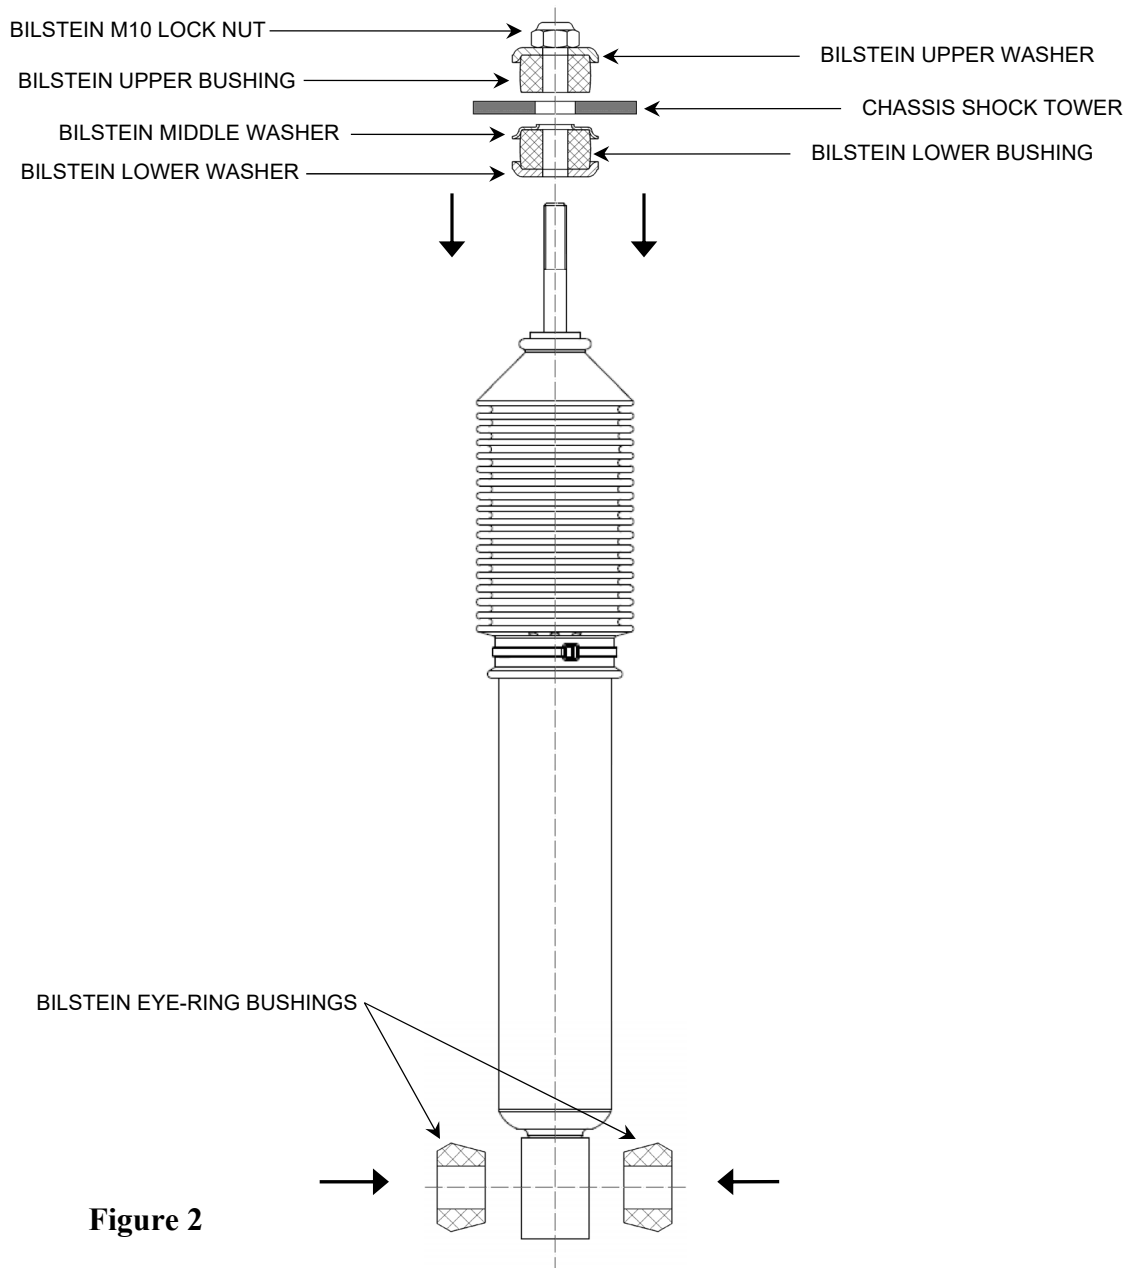

Figure 2
- B. Using the supplied stem mounting hardware, install the lower washer, lower bushing, and middle washer onto the shock stem. Using the supplied eye-ring bushings for the lower mount, install the Bilstein Shock Absorber in the original location and attach the lower mount. Please refer to Figure 2 for the proper order of installation of the stem hardware and correct orientation of the eye-ring bushings.